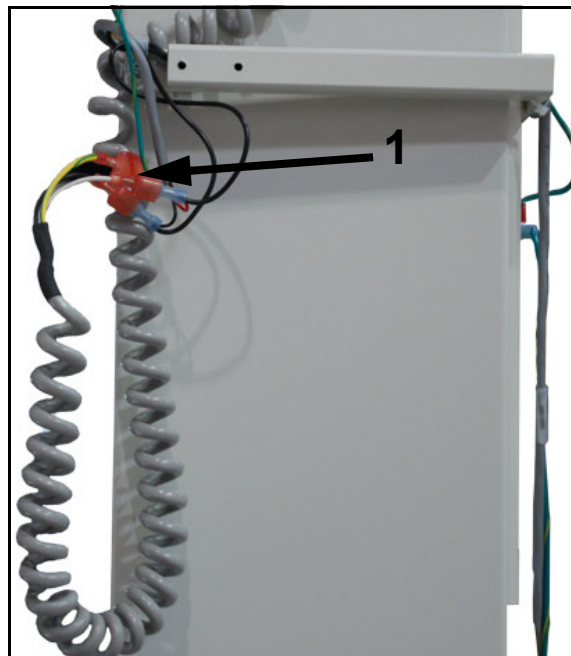

Figure 2-24. Vertical Lock Connectors
- 23** Connect the brake lock to the vertical lock connectors (1 in Figure 2-24).